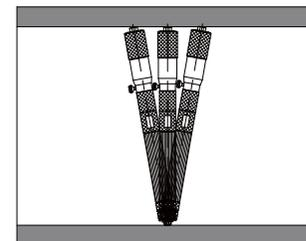

Fig.2
---During measurement, make sure there are no cutting chips or other debris on the measuring faces and workpiece surface to effect the result. Rotate barrel to set its size less than the hole's diameter, and then put micrometer into the hole. Put fixed measuring face to contact the measured hole, rotate barrel slowly, shake micrometer gently along hole's axial and radial to find the minimum value in axial direction(Fig.2) and the maximum value in radial direction(Fig.3), tighten the locking screw, take out micrometer to get the result.